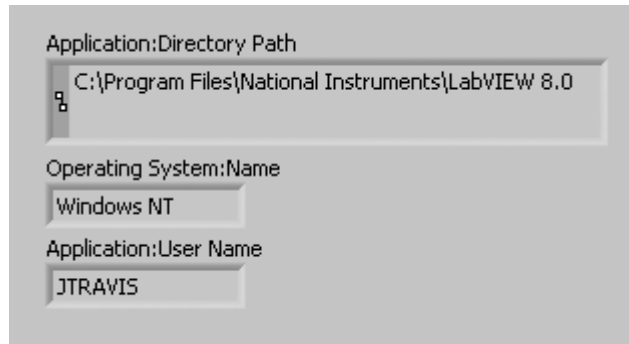

Figure 15.30
2. On the front panel, run the VI and observe the results (see Figure 15.30).